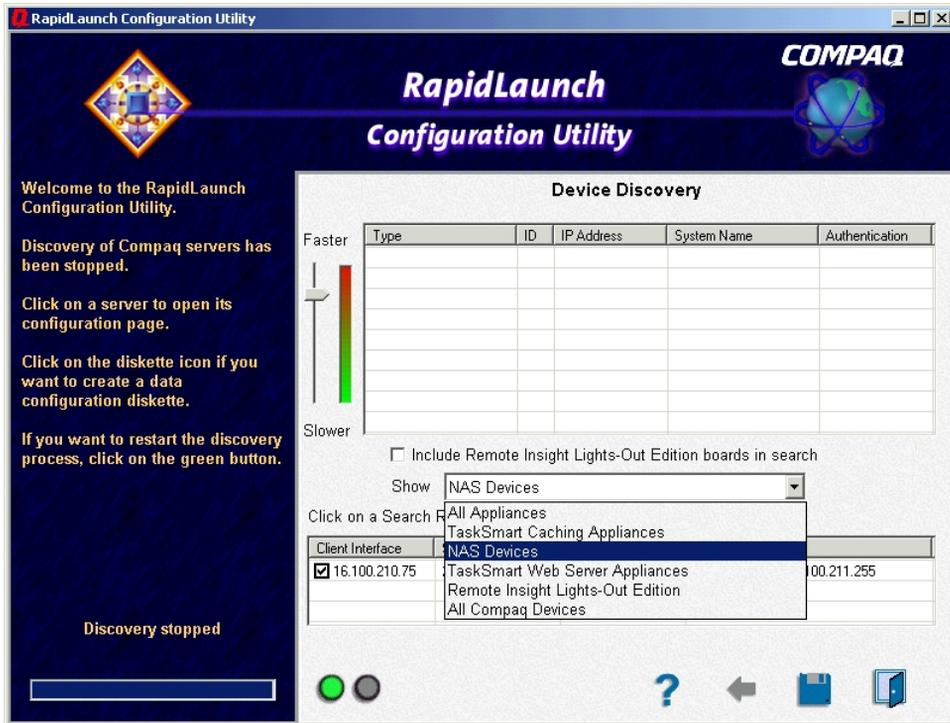

Figure 3-2: RapidLaunch search screen
7. Return to the Windows-based PC. Select **StorageWorks NAS** from the **Show** drop down list to have RapidLaunch list all NAS devices on the network as shown in Figure 3-2.